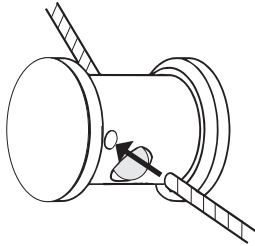

Fig. 4
6. Thread cable through one of the two small holes in the winding post (of the tuning knob) from the same side as the ball receptacle (**Fig. 4**).